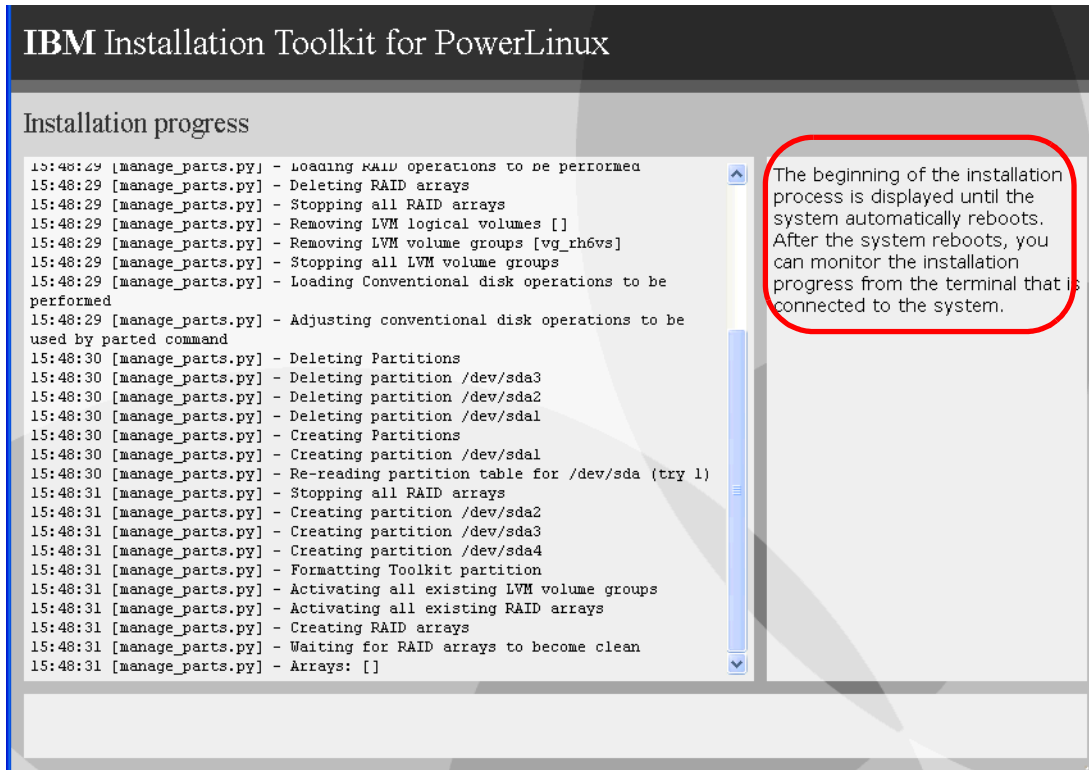

Figure 12-22 Linux Installation in progress
28. The installation of the distribution begins, as shown in Figure 12-22. After a few minutes, the LPAR reboots.